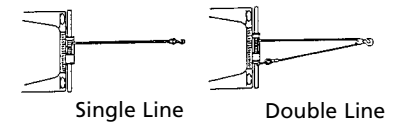

Figure 1
1. The S9000 winch is rated at 9,000 pounds (4082 kg) (single line) capacity on the wire rope layer closest to the drum. DO NOT OVERLOAD. DO NOT ATTEMPT PROLONGED PULLS AT HEAVY LOADS. Do not maintain power to the winch if the motor stalls. Overloads can damage the winch and/or the wire rope and create unsafe operating conditions. FOR LOADS OVER 6,000 POUNDS (2721 KG), WE RECOMMEND THE USE OF THE OPTIONAL PULLEY BLOCK TO DOUBLE LINE THE WIRE ROPE (FIGURES 1 & 14). This reduces the load on the winch and the strain on the wire rope by approximately 50%. If attaching back to vehicle, attach to the frame or other load bearing part. **The vehicle engine should be running during winch operation to minimize battery drain and maximize winch power and speed.** If considerable winching is performed with the engine off, the battery may be too weak to restart the engine.